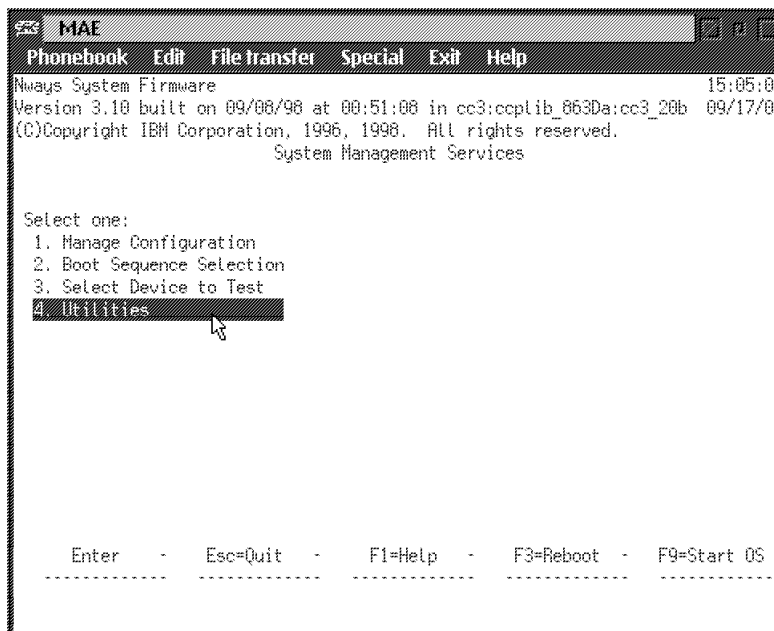

Figure 5-1. System Management Utilities
**8** The firmware menu is displayed. From the menu (as shown in Figure 5-1), you can select from four services. The following sections explain these services and provide instructions for using the associated panels:
As seen in Figure 5-1 on page 5-4, various function keys appear in the lower part of the panel. Some of these keys are common among the firmware panels. On other panels, the function keys are stacked at the right of the panel. Use the F1 Help key to get descriptions for the function keys associated with the firmware.
**1** Select **1. Manage Configuration** from the main menu as shown in Figure 5-1 on page 5-4.